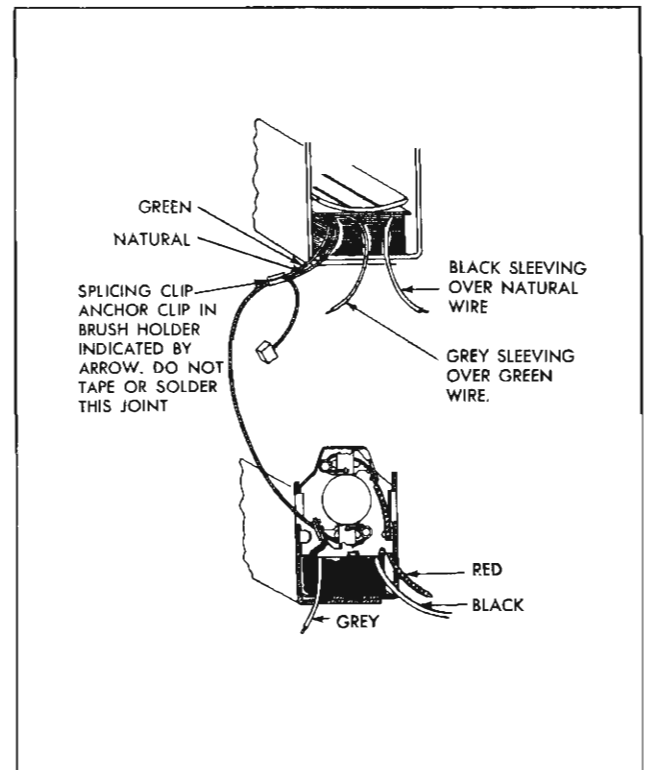

Fig. 11-76 Internal Wiring
0	(1) Loose solder connection at wiper terminal No. 2. (2) Loose splice joints (Fig. 11-76).
Except for the internal wiring to the wiper terminal board, the disassembly-assembly procedures for the two speed wiper covered in this section are the same as those outlined for the single speed wiper. See Fig. 11-76 for internal wiring.